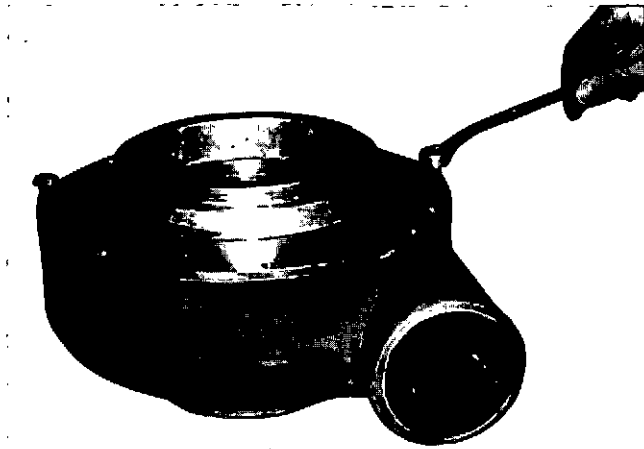

Fig. 3-4, (VTST29). Removing the diffuser plate from the compressor housing
6. Remove the capscrews and lockwashers that hold the collector housing to the diffuser plate, Fig. 3-4.